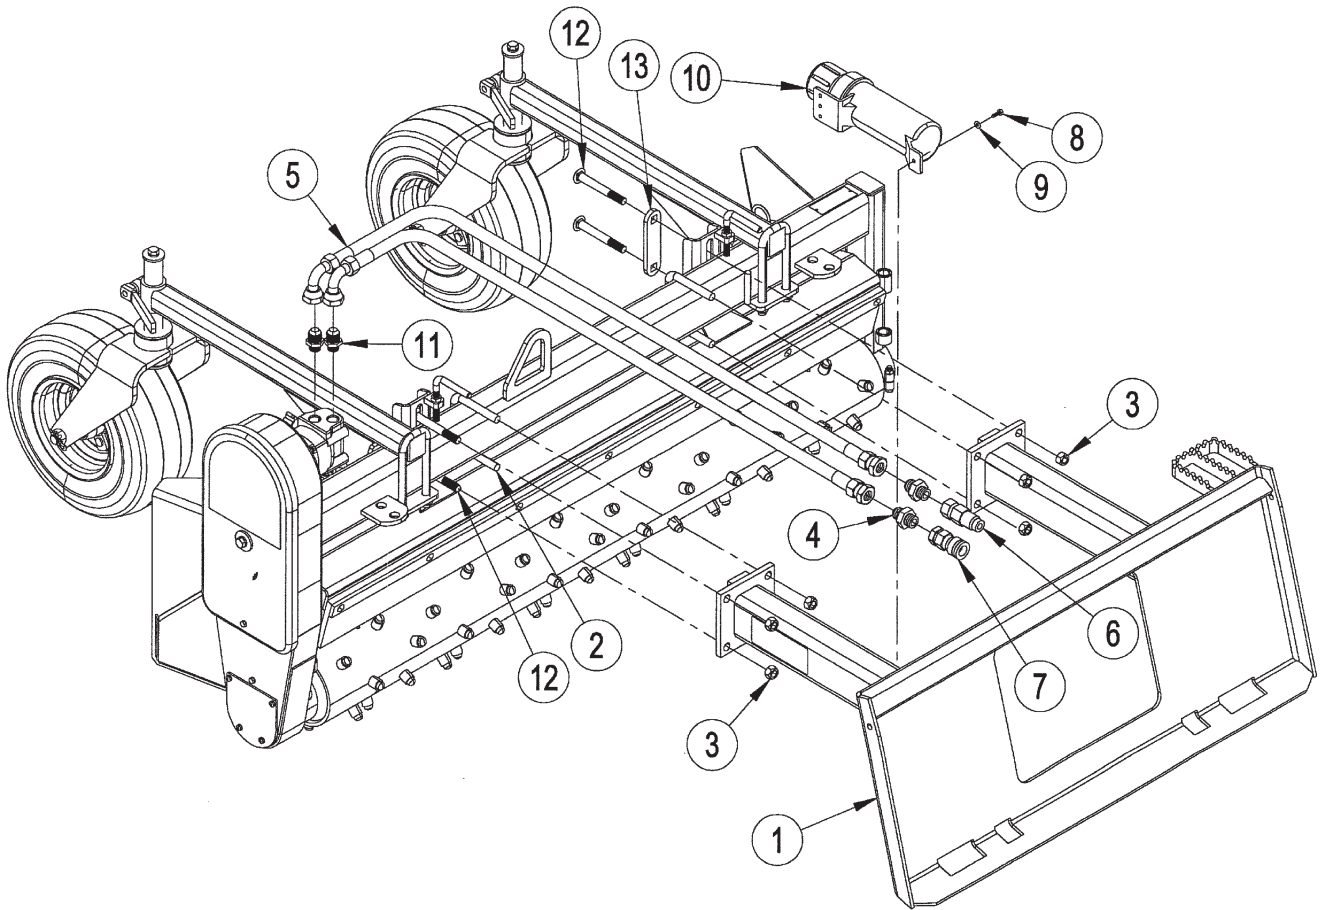

Figure 10. Straight Model Assembly
STRAIGHT MODEL ASSEMBLY PROCEDURE (See Figure 10)
2. Attach the two gauge wheel assemblies to main frame using two 5/8" U-bolts and locking nuts as shown in **Figure 10 (page 28)**.